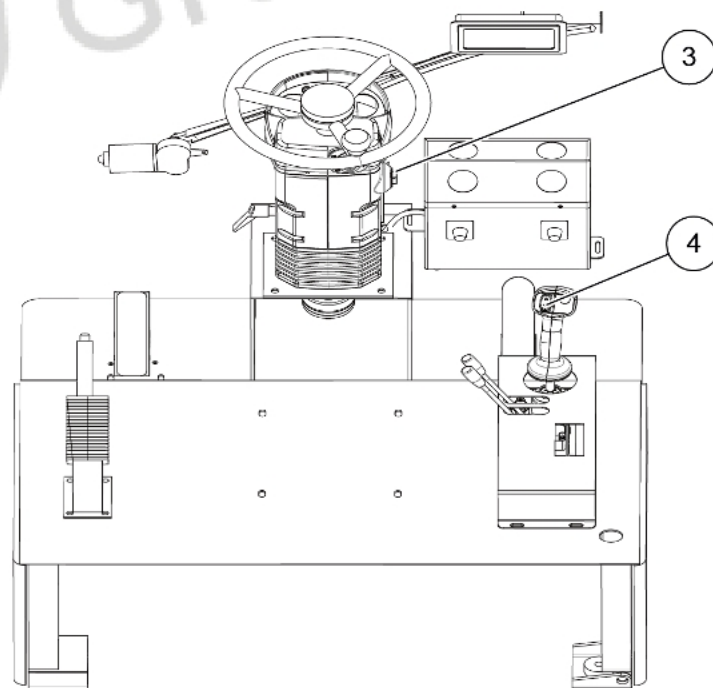
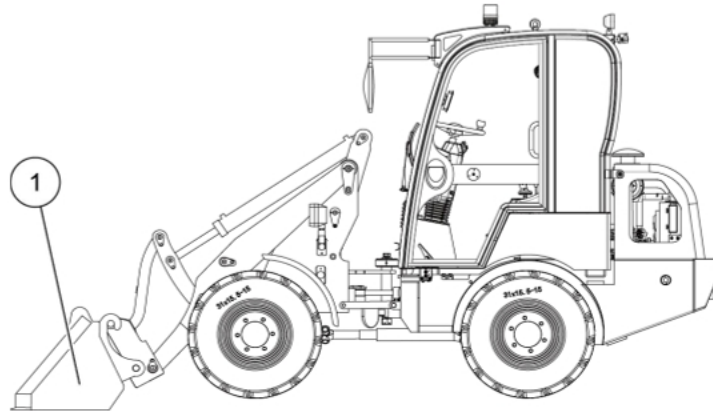

Figure 5-29 Operation platform
Figure 5-31 Stopped State
(2) Power switch
Step 4: Insert the key into the starting switch(3), the starting switch is in "OFF" state(5), as shown in Figure 5-29 and 5-30;
Step 5: Check and make sure that the travel control switch (4) is in the middle position, as shown in Figure 5-29;
Step 6: Turn the key to "ON" state(6) and hold. At this time, the whole loader circuit is connected;
Step 2: Select the parking position of the loader, choose a flat ground as far as possible, and put the bucket (1) to the ground, as shown in Figure 5-31;